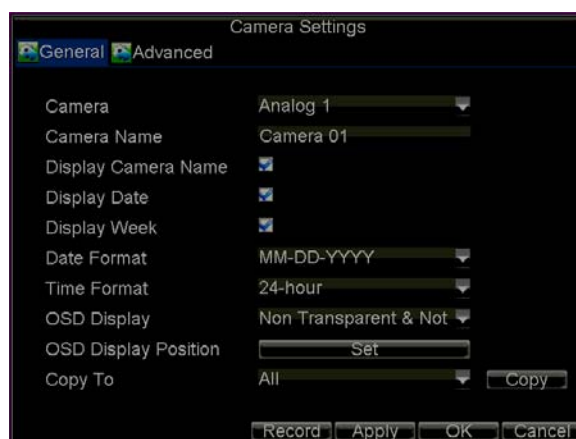

Figure 18. Camera Management Menu
1. Click Menu > Settings > Camera to enter the Camera Settings menu, shown in Figure 18.